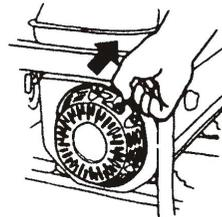

Figure 47
2.4 Pull up the recoil start handle slowly until an anti-action is felt, keep pulling until over passing the resistance. At this position, the inlet and outlet valves of the engine are closed so as to prevent the rusty crankcase. (Figure 47)